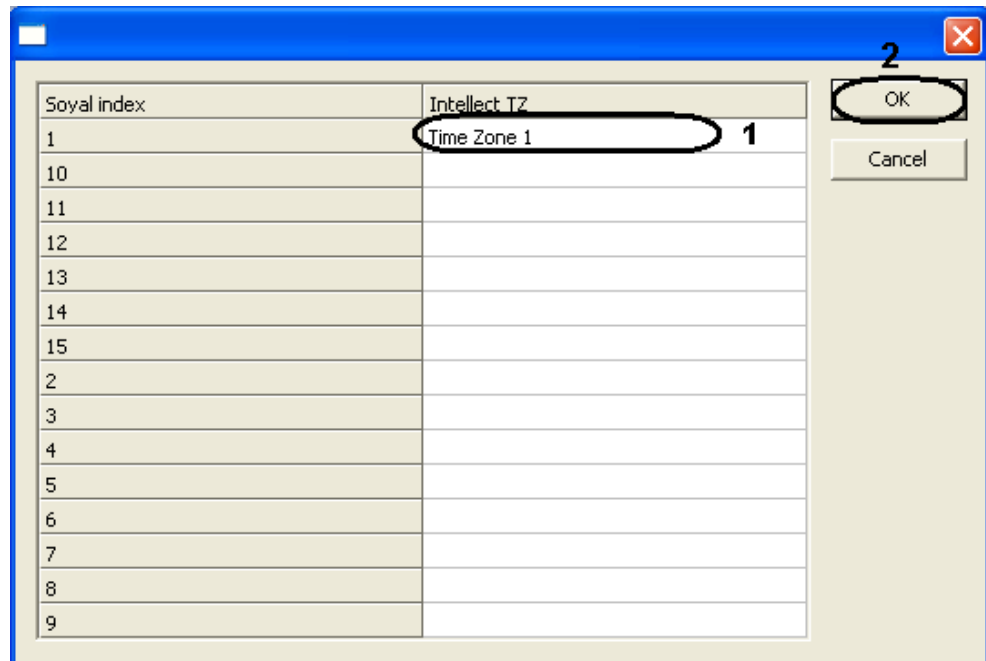

Figure 2.7—3 Setting up Time Zones
6. Click **Set up Time Zones** to configure the matching between time zones of device and time zones of Intellect Server (Figure 2.7—2, 5).
- 6.1. In the **Intellect TZ** column select the time zone in *ACFA Intellect* corresponding to the time zone of Soyal device (Figure 2.7—3, 1).
- 6.2. Click **OK** to confirm changes (Figure 2.7—3, 2).
7. Click the **Read configuration** button to send the configuration from the AR-727 controller to the *ACFA Intellect* software (Figure 2.7—2, 6).